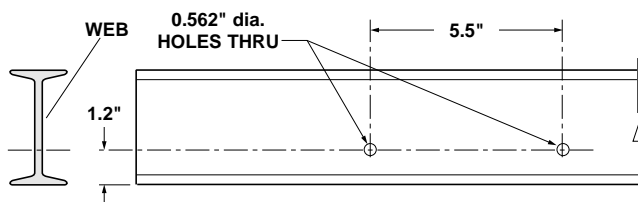

FIGURE 6–BEAM DRILLING
C. Mark horizontal location of holes. Holes must be 5.5" apart and in final location for fixed trolley. Drill two 0.562" dia. holes thru web. See Figure 6.